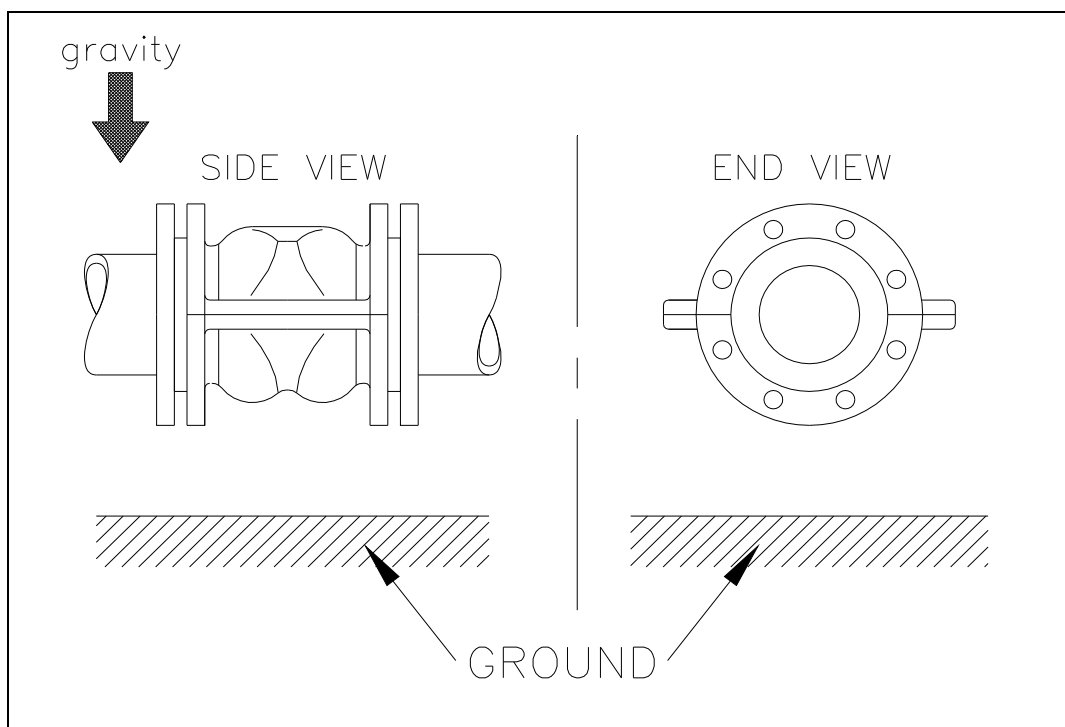

Figure 2-2: Installation Orientation for Horizontal Pipe
- 2) For installation onto a horizontal pipeline, be sure that the valve is installed with the split of the valve being horizontal. However in a vertical pipeline, the aiRFlex® valve can be installed in any orientation (see figure 2-2).